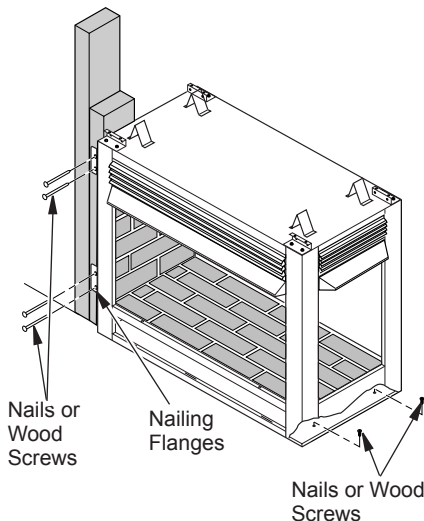

Figure 10 - Attaching Firebox to Wall Studs
7. Attach firebox to wall studs using nails or wood screws through holes in nailing flange (see Figure 10). Attach firebox to board base through holes in firebox bottom (see Figure 10).